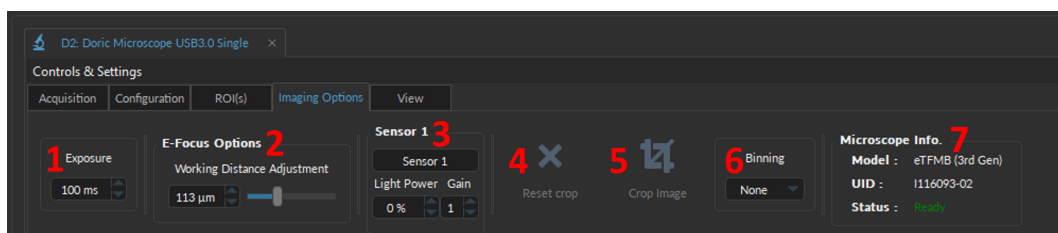

Figure 7.15: Imaging Options Tab
1. The **Exposure (ms)** textbox (Fig. 7.15, 1) specifies the length of time that the microscope sensor collects light from the sample. There are trade-offs between exposure time, image brightness, and phototoxicity.
2. The **E-Focus Options** (Fig. 7.15, 2) allows users to adjust the **Working Distance** of the microscope focus using a slide bar from -45 to 45 μm for *snap-in efocus fluorescence microscope* and from 0 to 350 μm for *Twist-on efocus fluorescence microscope*.
3. The **Sensor #** (Fig. 7.15, 3) sets parameters that is specific for the specified sensor. When a microscope used has multiple sensors, multiple SENSOR sections will be displayed, one for each sensor.
4. The **Reset Crop** button (Fig. 7.15, 4) will remove any crop applied to the image and reset the image size to its maximal value. The change will only appear when a new **Record** sequence is activated.
5. The **Crop Image** button (Fig. 7.15, 5) will chop unwanted section of the **Microscope View** by drawing a square on the video feed. When a new **Capture** sequence is activated, only the cropped region will be captured. Note that the image size will automatically be adjusted to the new resolution.
6. The **Binning** drop-down (Fig. 7.15, 6) averages the pixels values based on the binning value selected: either none, 2x2, or 4x4 pixel squares will be averaged together. This reduces the number of pixels for smaller save file sizes. Note that **Size** of the frame will be automatically adjusted based on the binning:
7. The **Microscope Info.** (Fig. 7.15, 7) includes the following details: